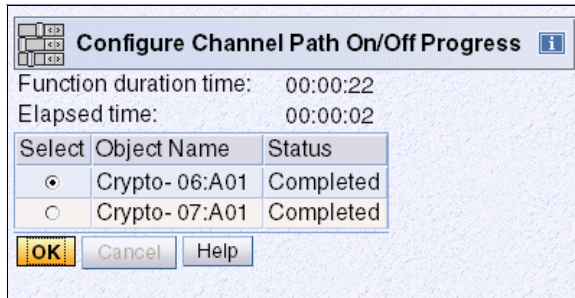

Figure 8-36 SE Crypto Config On/Off (Online completed)
5. A progress panel indicates the status of your request. Confirm that your request for configure channel path On/Off is completed (Figure 8-36). Press **OK**.